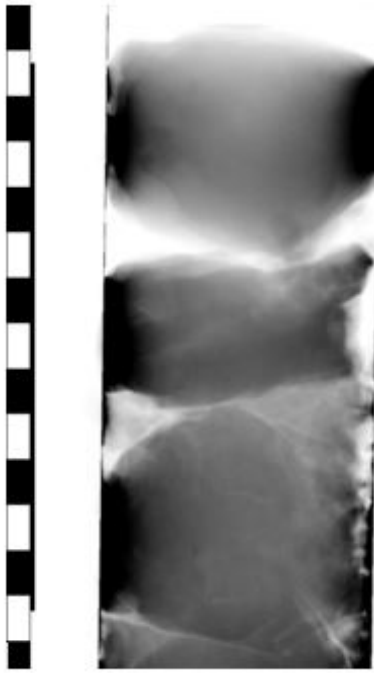

Figure 45. Example of manual processing when the core diameter is set too narrow.
1. Image edges are dark after manual processing (Figure 45): The value entered for core diameter is too narrow. Increase the core diameter value and reprocess the images.